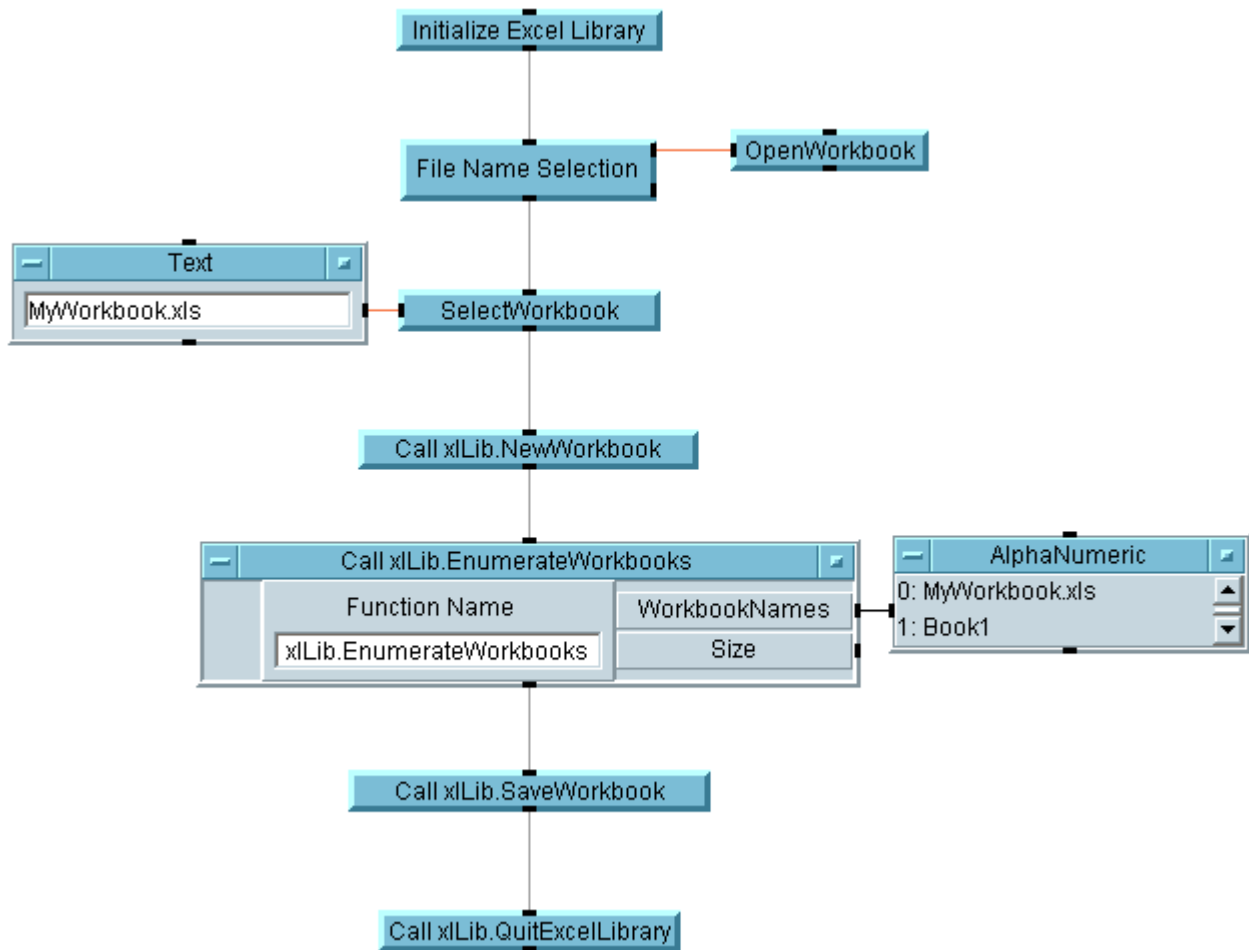

Figure 192 Enumerating Workbooks
- 6 Run the program and you should see a result like Figure 192.